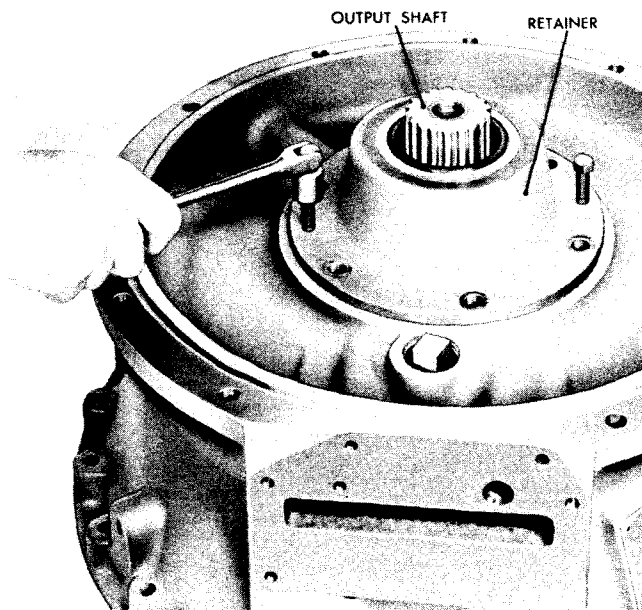

Fig VI-21. Removing bearing retainer
(1) Remove the bolt, lock washer, washer, and output flange from the output shaft.
(2) Remove six bolts and lock washers from the bearing retainer. Using jackscrews if necessary, remove the bearing retainer (fig. VI-21).
(3) Install the bearing retainer and secure the retainer to the converter housing with six bolts and lock washers (fig. VI-21).
(4) Install the output flange, output-flange washer, plain lock washer and hexagon-head bolt into the end of the shaft.
(5) Torque the bolt to 120-130 pound-feet.